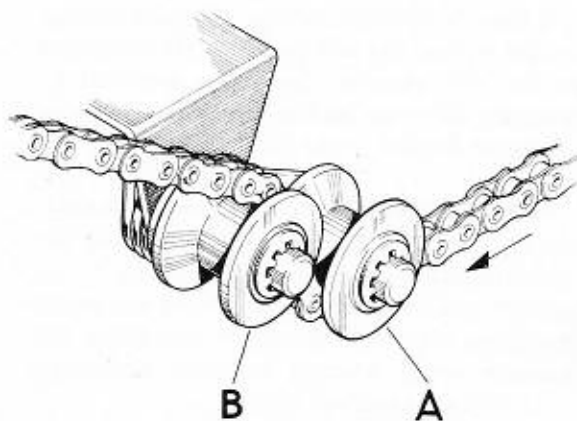

FIG. D9. Jockey pulley.
Reach underneath the frame and make sure that both ends of the chain pass through their respective apertures (*i.e.*, the bottom run through and between the pivot block and the bottom of the frame and the top run through the aperture in the pivot block). The top run of the chain should now be placed around the small sprocket. The lower run of the chain should be fed through the jockey pulley so that it first goes underneath pulley (A) Fig. D9, and over the top of pulley (B), the chain can then be connected together with the split-link with the closed end of the spring clip facing the direction of chain travel (*i.e.*, rearward on the bottom run).